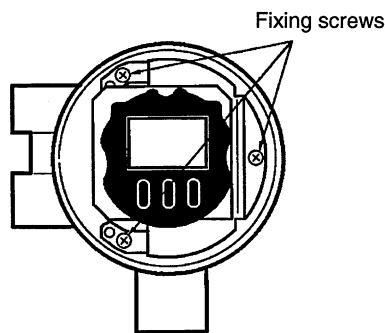

Figure 4.3.1 Positioning of Fixing Screws
- (1) Turn the ADMAG SE power off.
- (2) Remove the cover of the converter.
- (3) Loosen the three screws which secure the amplifier as shown in Figure 4.3.1.